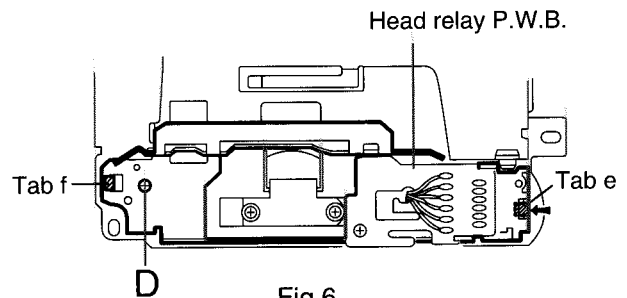

Fig.6
**■ Removing the sub chassis (See Fig.6)**